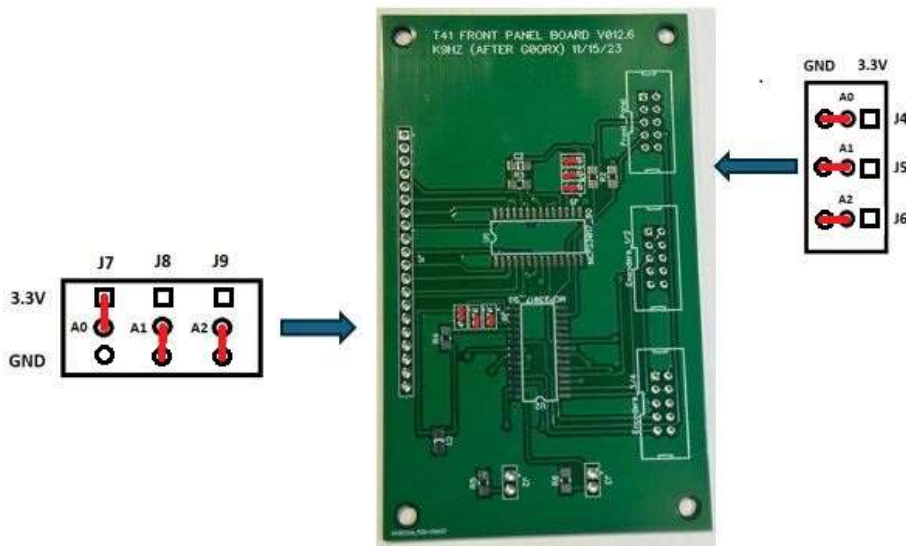

Figure 2. Jumpers In Proper Position for Use With The V12 T41.
4. Select the proper I2C addresses for the MCP23017's as discussed in the above section. Solder the clipped leads from capacitors or resistors folded into a "U" into the appropriate holes. See Figure 2.